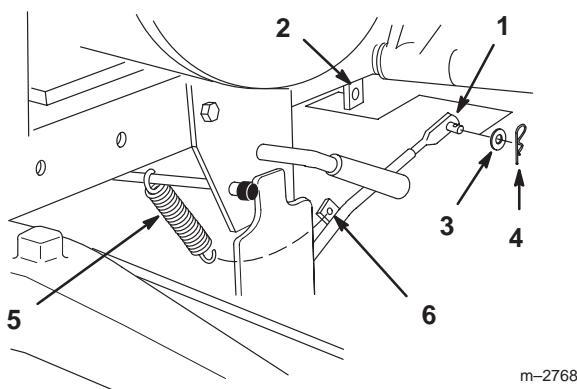

Figure 11
9. Place rear of lift rod into tractor lift arm and secure with washer and hairpin cotter (Fig. 11).
10. Hook lift assist spring between snowblower frame rod and tab on lift rod (Fig. 11).